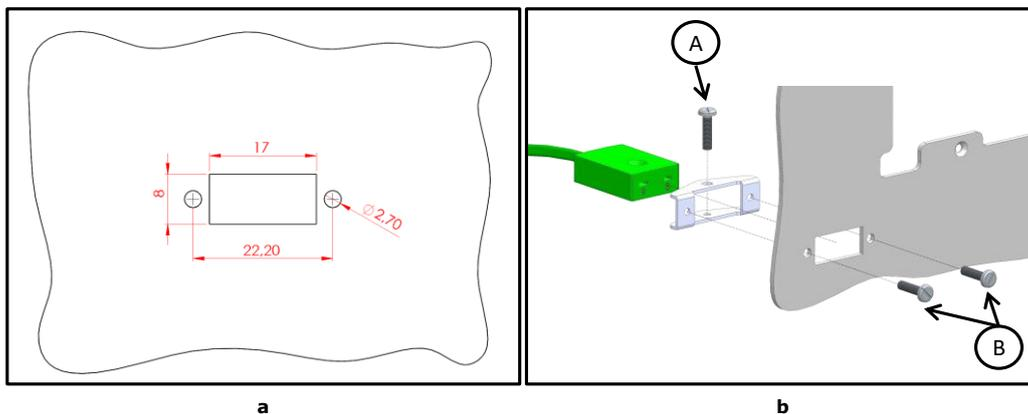

Figure 86. Installation of the panel mount extension thermocouple cable. (a) Panel opening size; (b) Fixation of the Extension thermocouple cable
1. Cut an opening in the panel with the size indicated in Figure 86(a).
2. Fix the CAB 110 connector to the panel with the screws provided, pointer A (M 2,5x9) and pointer B (M 2,5x11) in Figure 86(b).